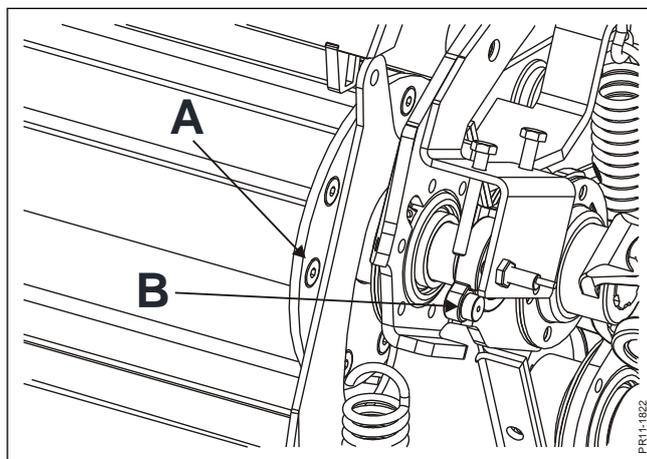

Fig. 5-4
**Fig. 5-4** To secure against faulty operation after a metal detection and to ensure that possible metal has been removed before restarting, the electronics does not allow normal feed intake function until the feed intake has reversed. During reverse the feed roller **A** drives a magnet switch **B** around. Hereby a signal is sent to the microprocessor that you have reversed and the stop system with the pawl will reset.